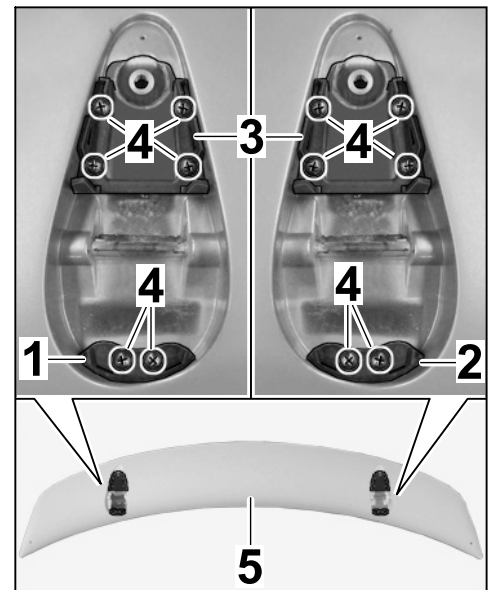

Figure 13
3.2.2 Install new rear spoiler holder in new upper part of Aerokit rear spoiler (⇒ *Figure 13*).